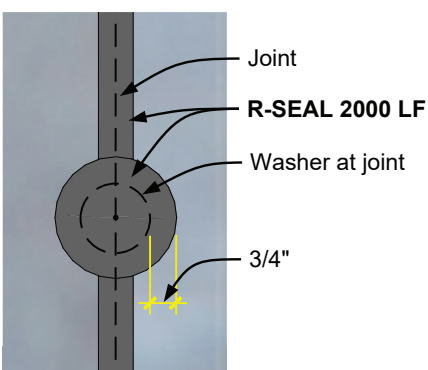

Figure 8
K. Joint Fasteners: Where insulation board fasteners fall at a joint, apply and tool R-SEAL 2000 LF continuously over the entire washer and a minimum of 3/4" radially beyond the washer. **Reference Figure 8.**
L. Field Fasteners: When NOT using Trufast Walls Thermal-Grip®ci Prong Washers and Grip-Deck® Self-Drilling Screws, apply and tool R-SEAL 2000 LF continuously over the entire fastener/washer and a minimum of 3/4" radially beyond the field washers, similar to **Figure 8.**